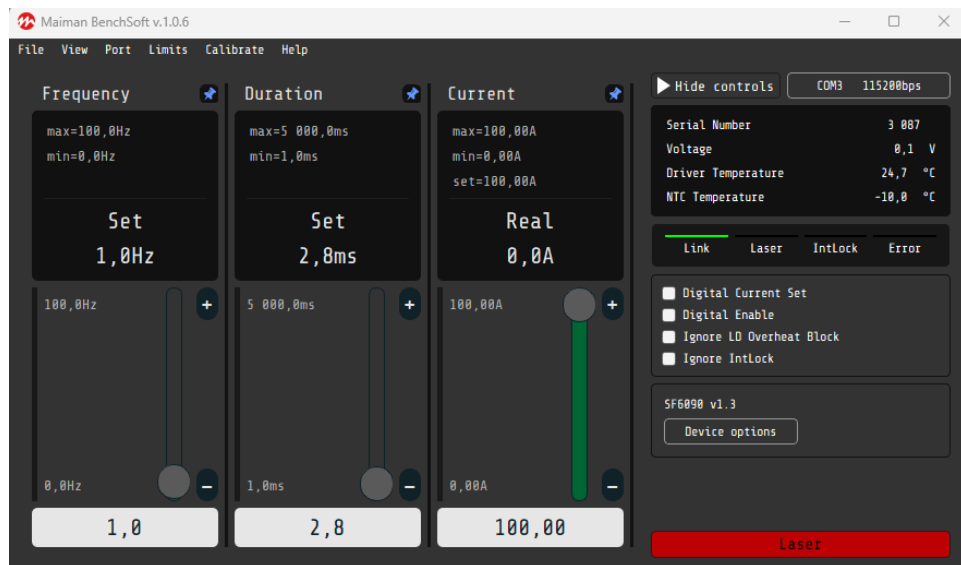

Figure 6. MAIMAN BENCHSOFT software program settings
- Click on Disconnected button. Software connects to driver unit and software window changes. See the Figure 6.